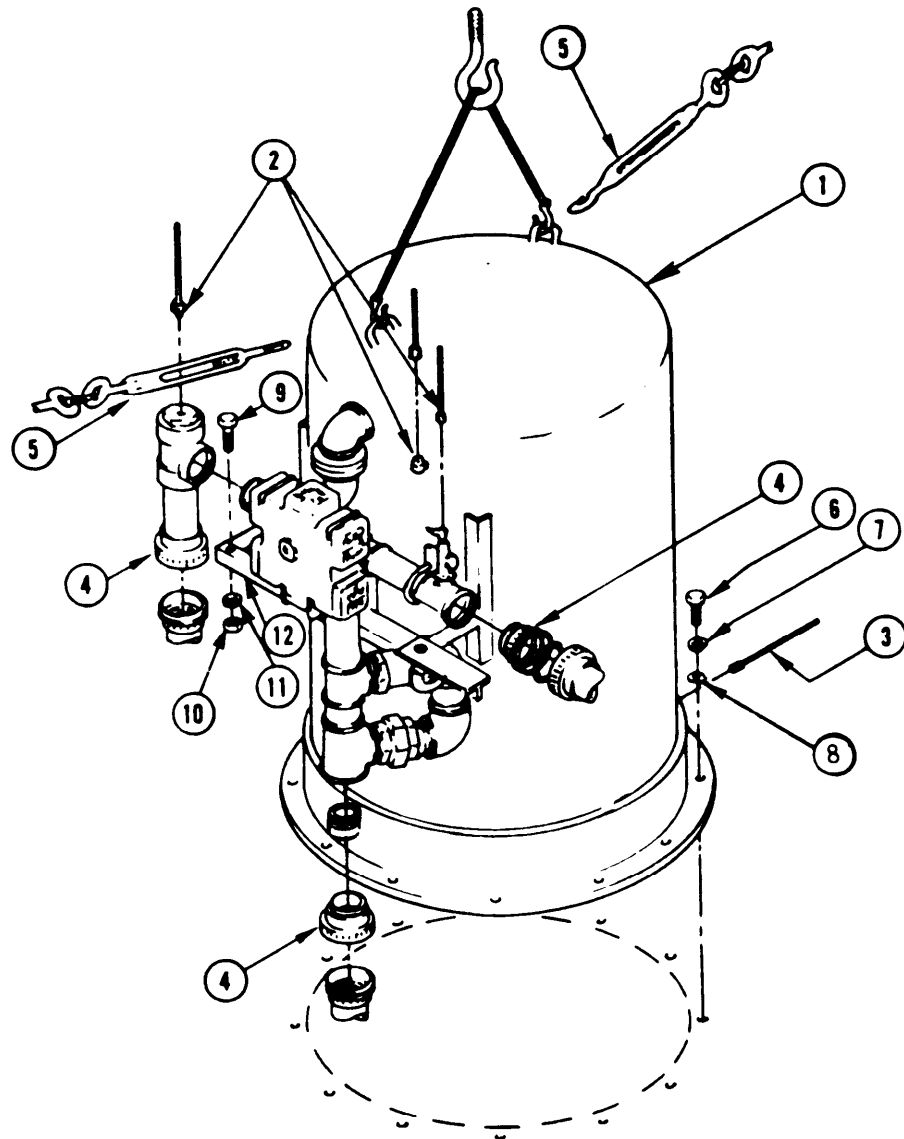

Figure 3-38. Multimedia Filter Assembly
c. Removal Multimedia Filter Assembly. (Figure 3-38)